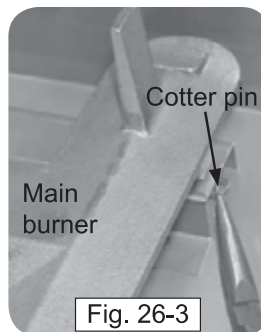

Fig. 26-3
3. Remove the cotter pin from the left or right rear burner anchoring peg by pulling it straight out of the cotter pin hole using fingers or needle-nose pliers (Fig. 26-3).